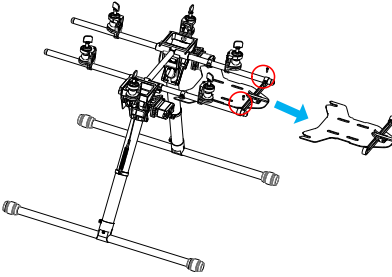

Fig.1
1. (Fig.1) Remove the screws to dismount the Battery Bracket.